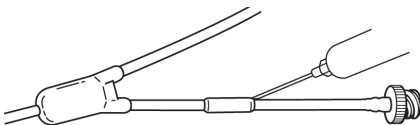

Fig. 16
7. Inject adhesive into both ends of the sleeve. (Fig. 16) Wipe off excess adhesive.